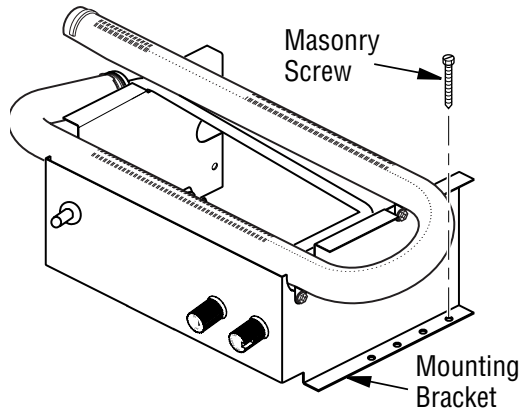

Figure 12 - Attaching Base to Fireplace Floor
7. Mark screw locations through one hole on each side of the mounting bracket (see Figure 12, Page 12). If installing in a brick-bottom fireplace, mark screw locations in mortar joint of bricks.